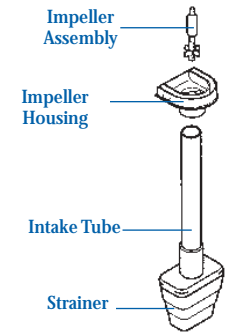

FIGURE 15
6. Reassemble parts. Refer to Parts Diagram (page 7) or Assembly Steps 7-10, if necessary. Insert Impeller Assembly into assembled Impeller Housing, Intake Tube and Strainer (Fig. 15) before reinstalling into Pump Motor Assembly.